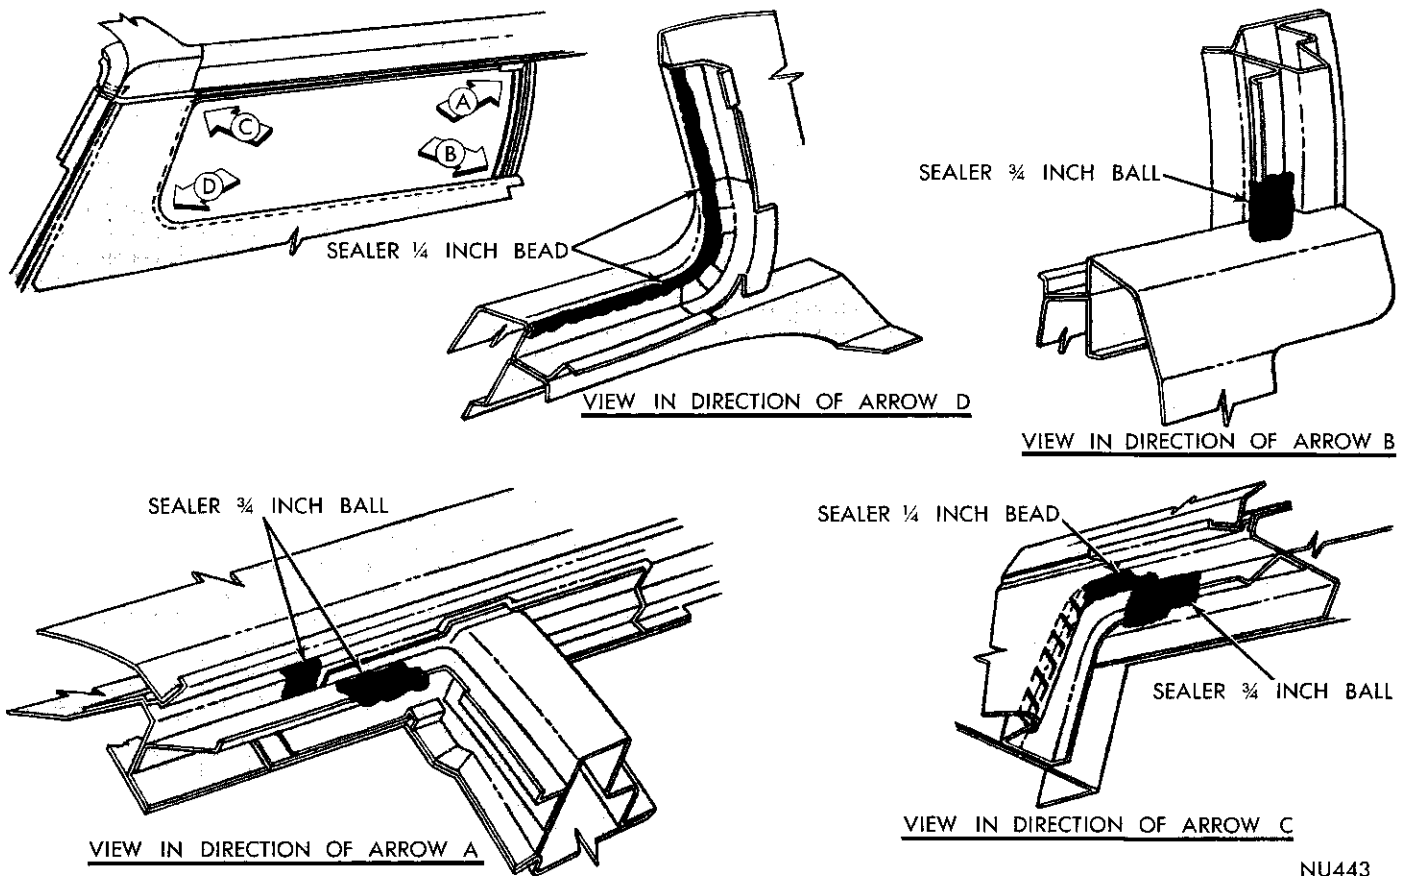

Fig. 80—Quarter Window Sealing Areas
- (1) Inspect sealing areas of quarter window to ascertain sealer is applied at areas indicated in Figure 80.